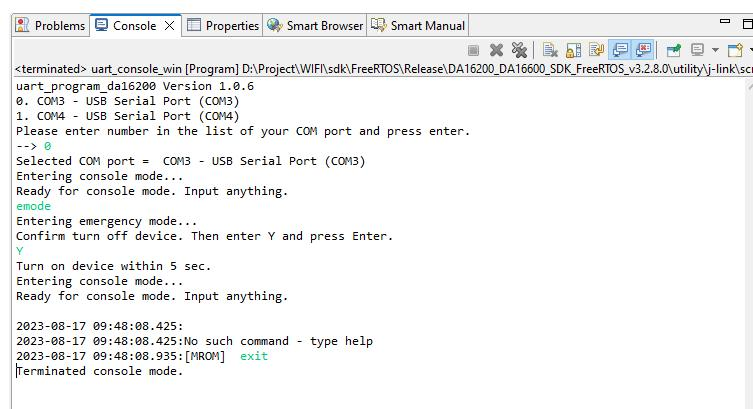

Figure 44: Emergency Mode for Programming Firmware Image
- Programing firmware image over serial interface. See Figure 44.